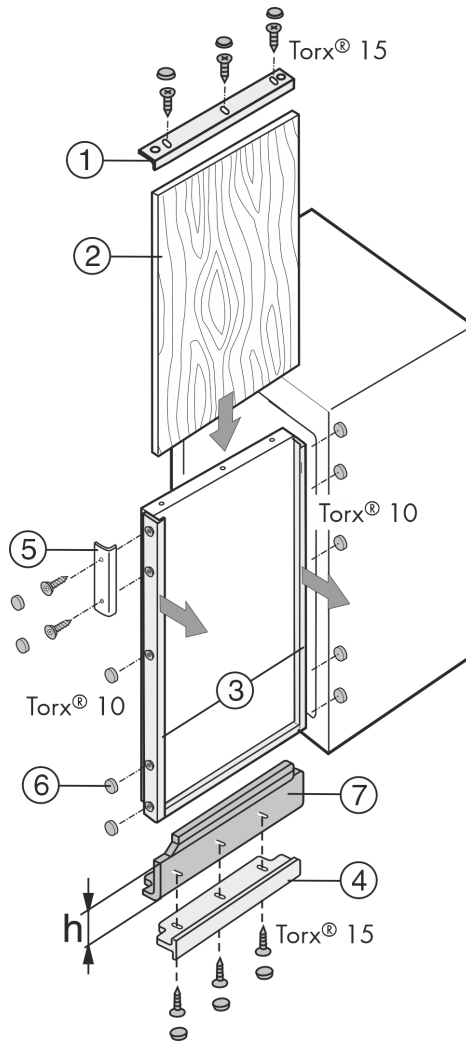

Fig. 41
- Screw on decor frame (4) loosely at the bottom and slide forwards.
- Fit equaliser trim (7).
- Screw on side parts (3) of the decor frame loosely at the bottom and slide forwards.
- Screw on handle (5) loosely.
- Slide in decor panel (4) from above.
- Fit top part (5) of the decor frame and screw on loosely.
- Snap cover caps (6) onto all screw heads.
If a décor panel is already there but not tall enough, you can adjust it with different height adapter panels Fig. 41 (7).